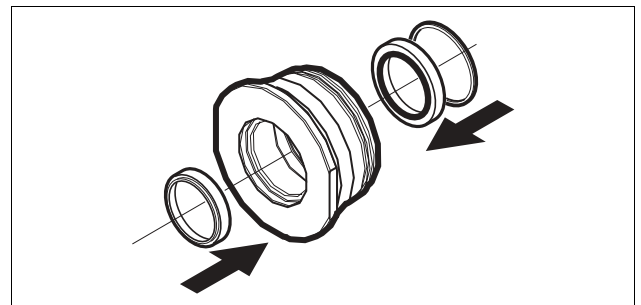

Fig. 29 Assemble the dust seal, the seal and the retainer ring to the gland
- 20.** Assemble the dust seal, the seal and the retainer ring to the gland. *See Fig. 29.*